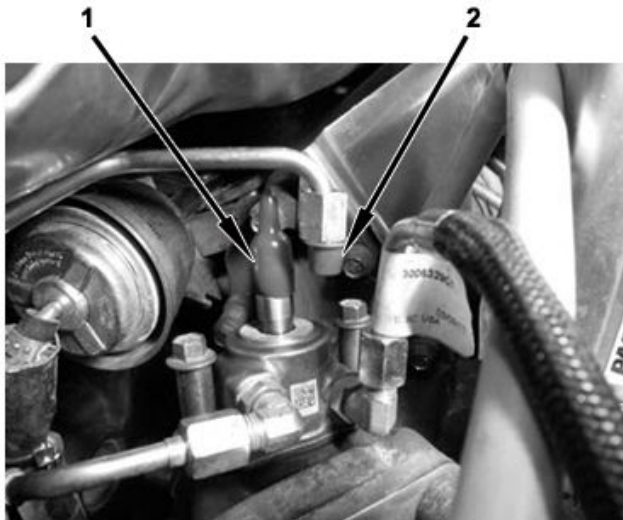

Figure 35. HCl Fuel Supply Line.
16. Remove HCl fuel supply line cap (Figure 35, Item 1) and HCl fuel inlet cap (Figure 35, Item 2).